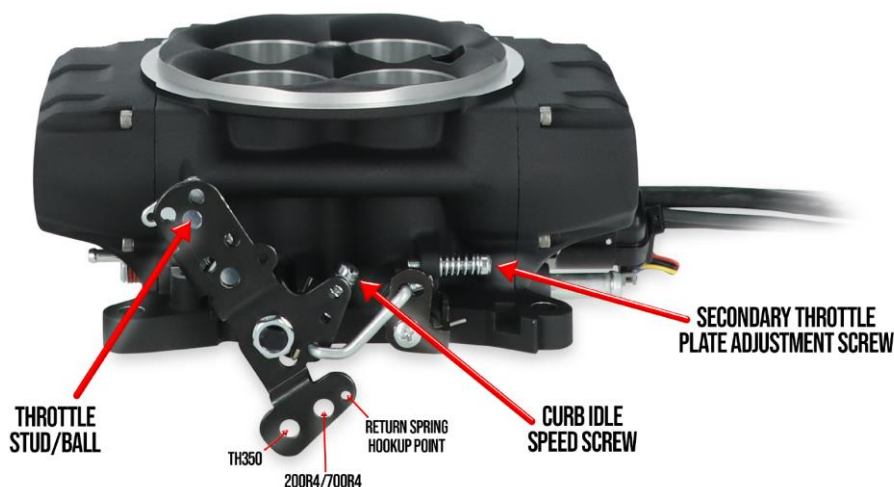

FIGURE 2
4. Reconnect the throttle and transmission kick-down linkage. Be sure to check for any binding conditions and correct before proceeding. Poorly routed throttle cables & linkages can cause throttle pedal issues. See **Figure 2** for correct linkage placement.